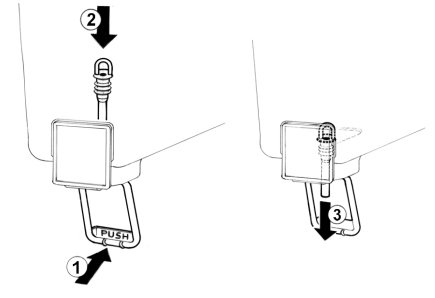

figure 4
2. Pinch tube faucet: push the dispensing handle (1) and insert the pinch tube into its vertical seat in the bowl bottom(2). Lightly pull the pinch tube end downwards until it is well arranged (3) (see figure 4).